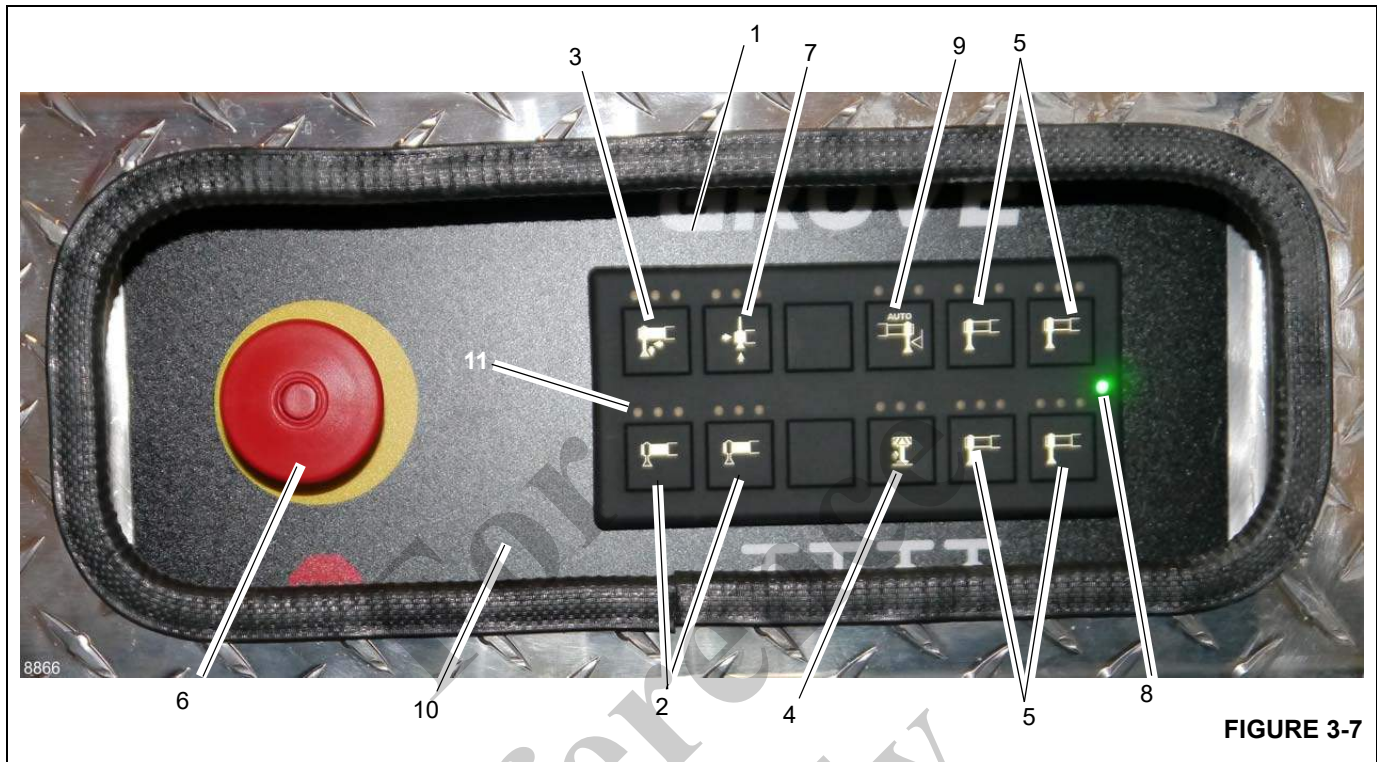

FIGURE 3-7
A push button emergency stop switch (6), (Figure 3-7) is installed on the panel.
A bubble-level indicator (10), (Figure 3-7) (not shown) is installed at the bottom of the outrigger panel.
There is one outrigger control panel (1), (Figure 3-7) on each side of the crane's frame. The panel on the right side operates the outrigger beams for that side only. The panel on the left side operates the outrigger beams for that side only. The jacks may be operated from the left or right side of the crane.
The Green LED (8), (Figure 3-7) illuminated is the keypad “Power” LED meaning that the keypad is properly powered (power and ground).
The outrigger beam selector push button (2), (Figure 3-7) is used to select the desired operation of the front or rear outrigger beam for the side of the unit the control panel is on.
The extend push button (3), (Figure 3-7) will operate both the outrigger beams or the jacks. After pushing the desired selector switch, pushing the extend switch will move the selected component in the extend direction.
The center front stabilizer push button (4), (Figure 3-7) is located in the center of the outrigger control panel. It must be used in conjunction with the extend/retract switch to control the operation of the center front stabilizer. The center front stabilizer will retract automatically when any of the other four jacks are retracted; therefore, it must be reset if lifting is to be continued.
The jack selector push buttons (5), (Figure 3-7) selects which jack is to be operated.
The emergency stop switch (6), (Figure 3-7) is located on the left center side of the outrigger panel. Push the switch to stop the engine and all hydraulic functions.
The retract push button (7), (Figure 3-7) will operate both the outrigger beams or the jacks. After pushing the desired selector switch, pushing the retract switch will move the selected component in the retract direction.
The power indicator (8), (Figure 3-7) illuminates green when power is available to the control panel.
The auto-level push button (9), (Figure 3-7) is used to automatically level the crane. The auto leveling algorithm adjusts the crane carrier angle while retracting the outrigger jacks. Thus, it is necessary to fully extend the outrigger jacks prior to pushing the auto level button.
The Bubble-Level Indicator (10), (Figure 3-7) (Not Shown) is located at the bottom of each outrigger control panel. If suspected that the bubble-level indicator is out of adjustment, refer to *Bubble Level Indicator Adjustment*, page 4-33.
Each button on the Outrigger Control Panel has three (3) LED lights (11), (Figure 3-7) above it: (one Green; one Yellow; and one Red).